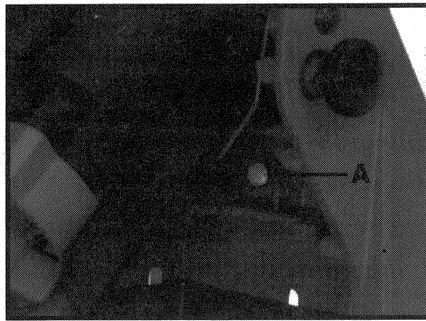

Fig. 5A
NOTE: The distance between the end of the workpiece and the cut slot is factory set at $\frac{3}{4}$ ". This distance can be varied by adjusting the motor stop screw (A) Fig. 5A.